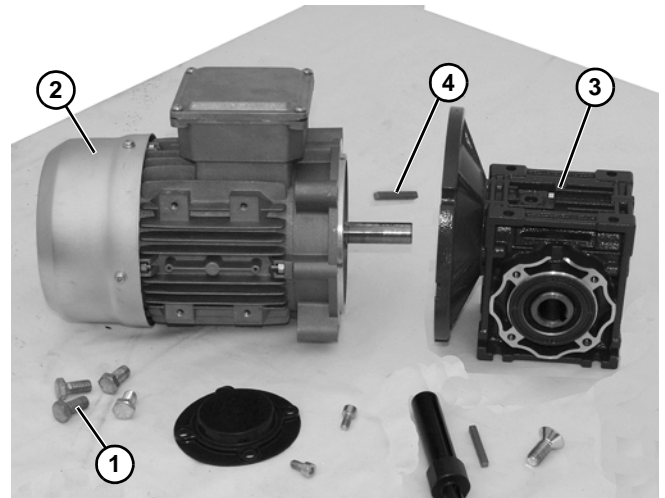

Figure 19
5. Remove four screws (**Figure 19, item 1**). Detach motor (**Figure 19, item 2**) from gear reducer (**Figure 19, item 3**). Retain shaft key (**Figure 19, item 4**).
9. Apply anti-seize to motor shaft before assembling to gearbox. With key (**Figure 19, item 4**) in keyway, slide motor (**Figure 19, item 2**) and gear reducer (**Figure 19, item 3**) together. Install screws (**Figure 19, item 1**) and tighten.
4. Apply anti-seize to motor shaft before assembling to gearbox. With key (**Figure 19, item 4**) in keyway, slide motor (**Figure 19, item 2**) and gear reducer (**Figure 19, item 3**) together. Install screws (**Figure 19, item 1**) and tighten.